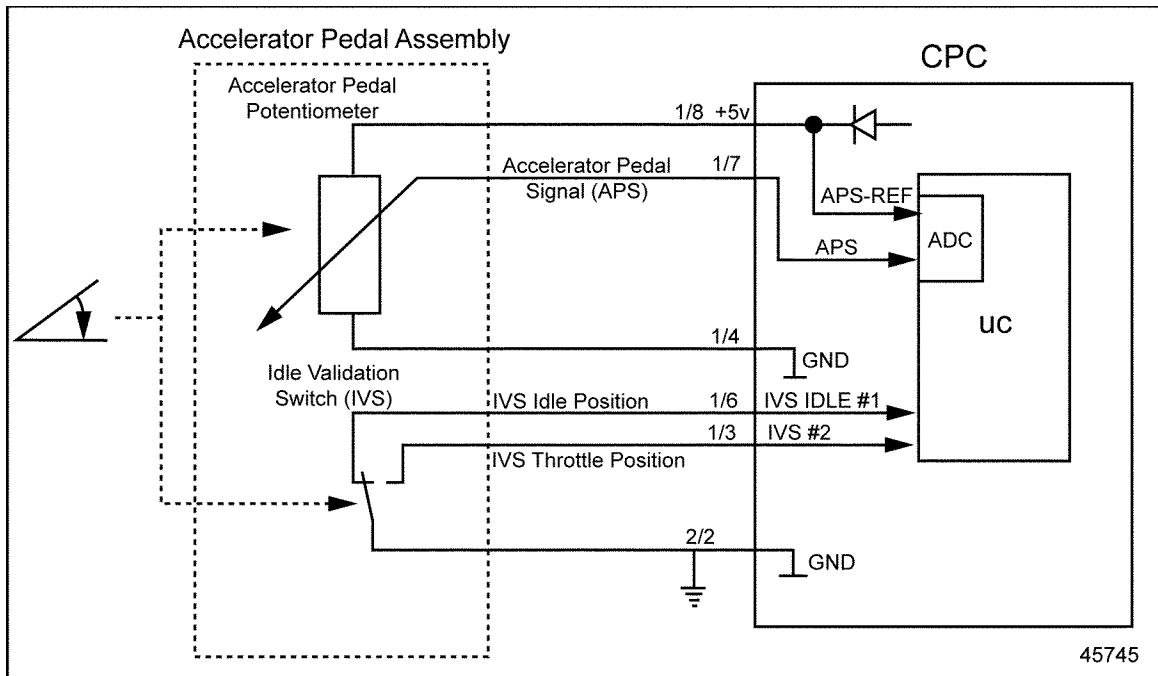

Figure 16-1 Idle Validation Switch, Part of the Accelerator Pedal Assembly
1. Disconnect the Idle Validation Switch. See Figure 16-1.